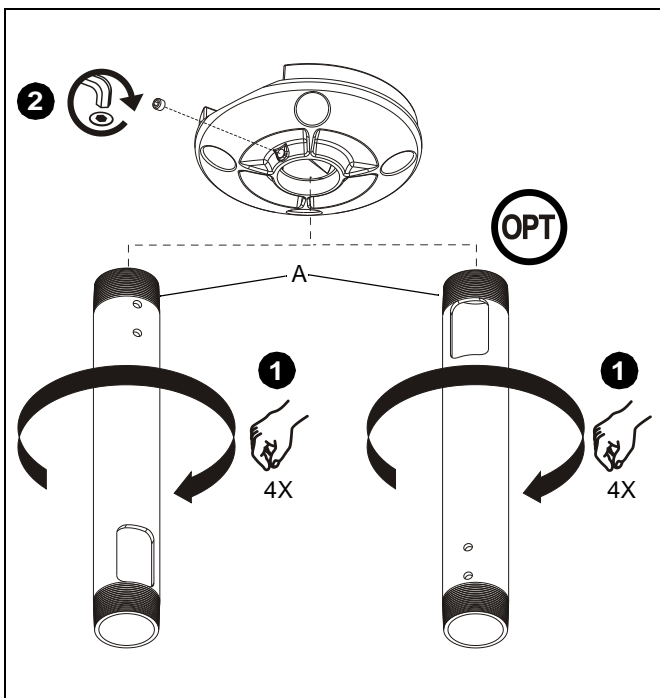

Figure 1
1. Install 1-1/2" NPT threaded column (A) into plate/adapter (See Figure 1). Securely tighten column.
- Ensure column (A) engages four full threads into plate/adapter.
2. Secure column (A) by tightening set screw in plate/adapter (See Figure 1).